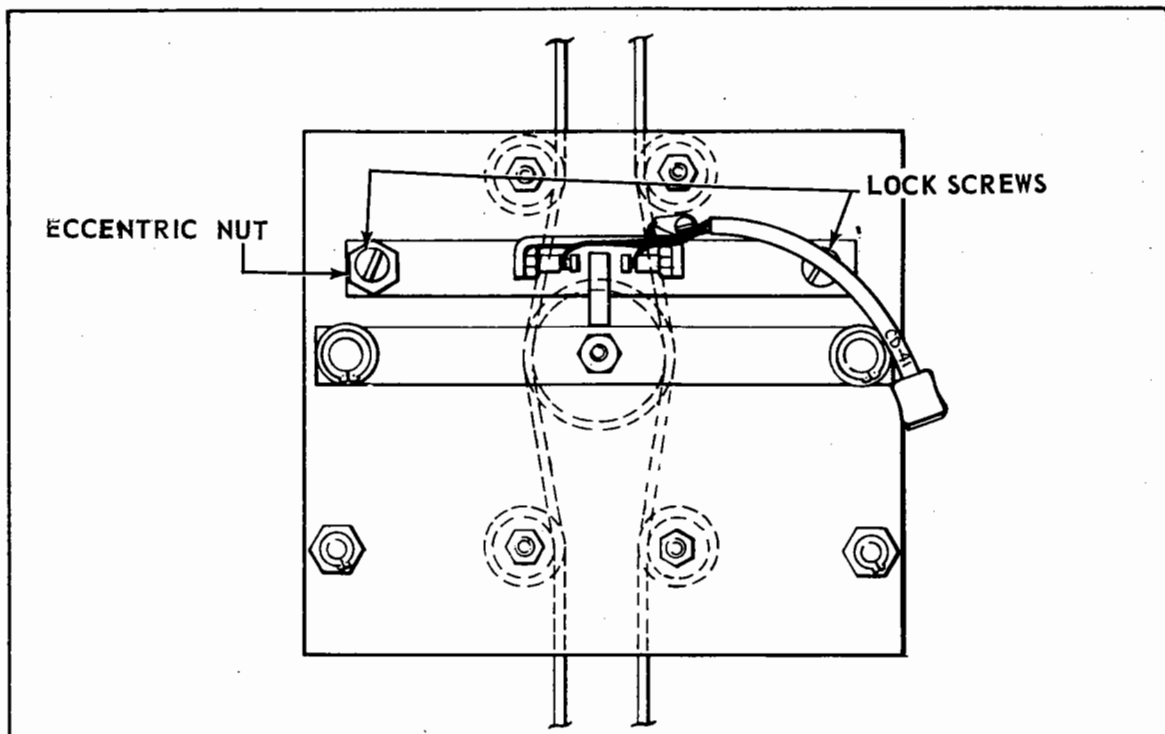

Figure 9-12. Plate Sensor Without Amplifier
9-31. TRIM SENSOR CENTERING PROCEDURES. The two types of sensors used on Piper airplanes with the III Series Automatic Pitch Trim Systems are shown in illustration form in this section of the manual, refer to figures 9-12 and 9-13. When making contact centering adjustments, it is very important to ascertain the type of sensor being adjusted and to follow the detailed instructions for that particular type sensor to avoid damage to the test equipment and the sensor.
c. Centering procedure for Plate Type Trim Sensor. (Refer to Figure 9-12.)
- a. Loosen both screws of the contact support bar. (Refer to Figure 9-12.)